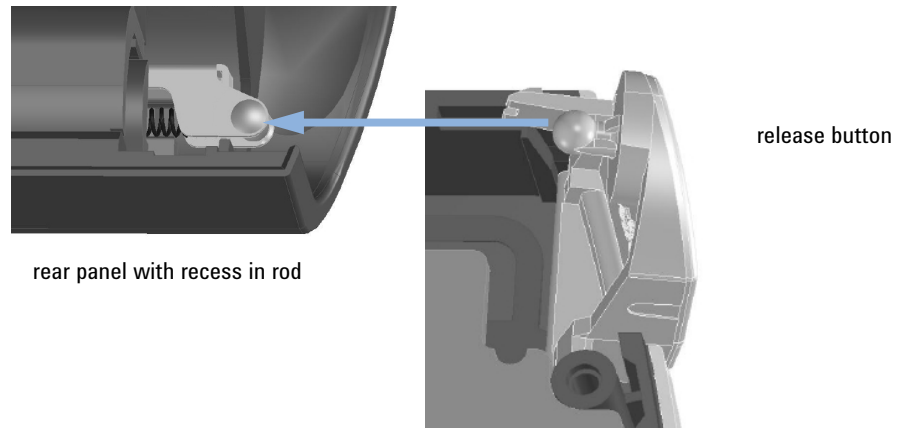

Figure 105 Pin of release button fits into the recess of the rod (OLD rear panel design)
- 10** Carefully replace the rear panel and fit the release button pin into the recess on one end of the connecting rod of the rear panel, see Figure 105 on page 156.